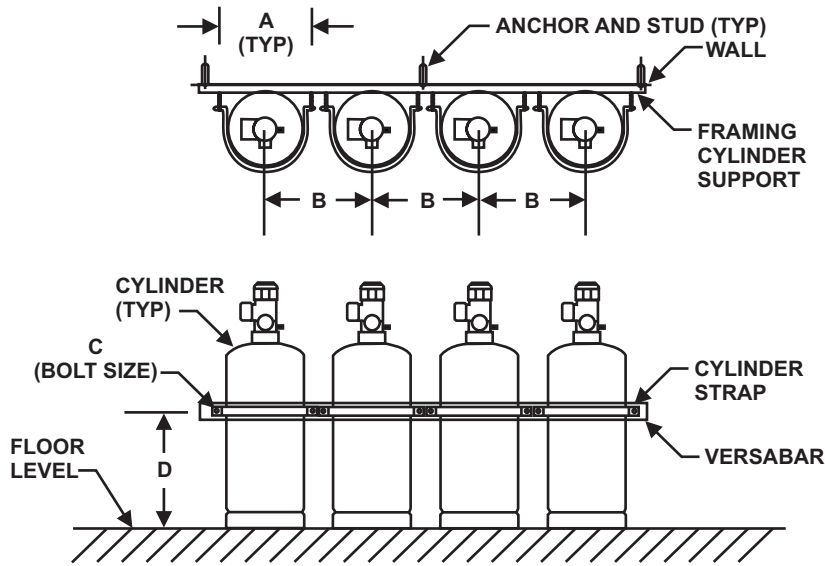

Figure 4-3. Multiple Cylinder Installation, Vertical Mounting
1. Position the cylinders in the designated location and secure them in place with cylinder straps and attaching hardware (see Figure 4-3 and Table 4-4). Orient the cylinders so that the valve outlets are angled towards the EI-check valves in the manifold.